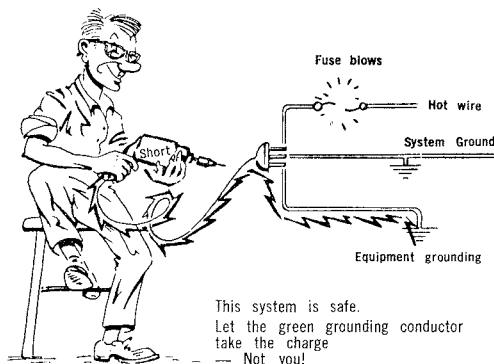

Fig. 1
2.02 Grounding, as described in this section, is accomplished by a third conductor used to connect the tool housing to the local power grounding system or to other equivalent grounds such as a cold water pipe. (See Figs. 1 and 2)